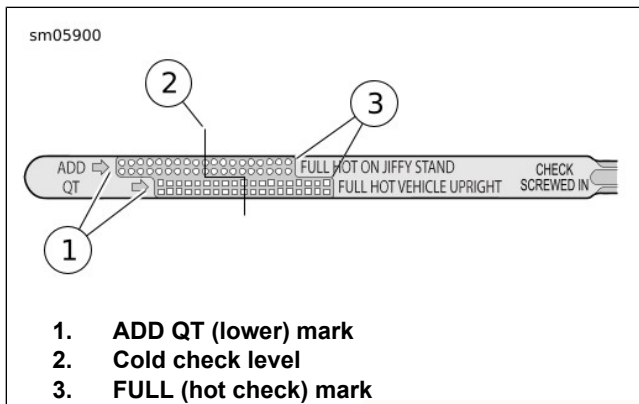

Figure 48. Engine Oil Dipstick
3. See Figure 48. Remove the dipstick and verify the level of the oil. The correct oil level should register midway (2) between the FULL and ADD marks on the dipstick.
4. See Figure 48. Remove the dipstick and note the level of the oil. The level should be between the ADD (1) and FULL (3) marks. Add oil as necessary to bring the level to the FULL mark on the dipstick. Do not overfill.